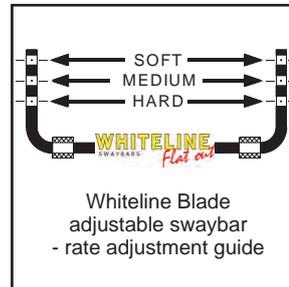
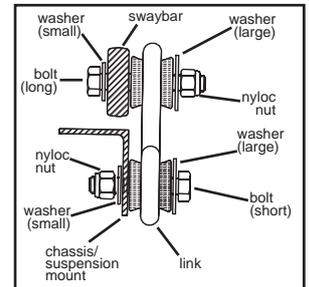

Figure 1.
Figure 2
5. Using new bolts, washers and links, connect the swaybar to the link brackets, as shown in photo 3 and figure 2. Refer to figure 1 for swaybar adjustment guide.